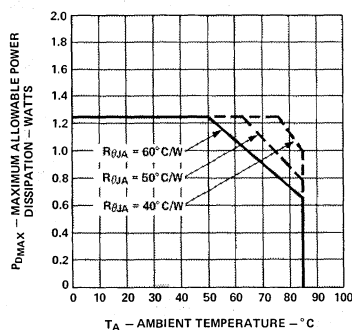

Figure 2. Maximum Allowable Power Dissipation vs. Temperature.
- The device should be derated linearly above 50°C at 16.7 mW/°C. This derating is based on a device mounted in a socket having a thermal resistance from case to ambient at 35° C/W per device. See Figure 2 for power deratings based on a lower thermal resistances.